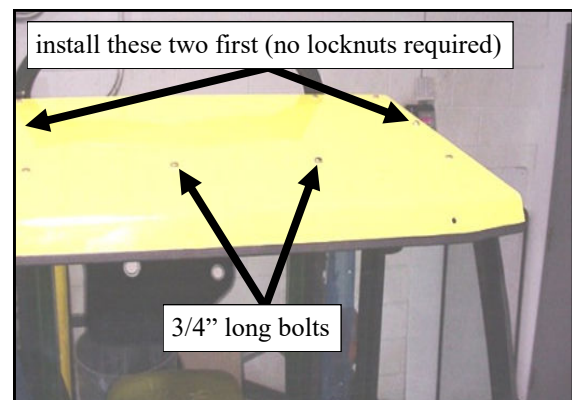

Fig. 11.1 Roof (viewed from the front)
11.1 With a Phillips head screwdriver, poke holes through the headliner from the inside surface to the outside surface. With assistance, install the roof as shown in figure 11.1. Use the following combinations of bolts: the two round holes in the top of the roof use two 5/16-18 x 3/4" long button head bolts, two steel washers, and two plastic washers on the outside surface. These two bolts thread into factory installed threaded inserts in the top of the side frames. The two front middle holes (square) use two 5/16-18 x 3/4" long button head bolts, two steel washers, and two plastic washers on the outside surface and two steel washers and two locknuts on the inside surface. The last two front square roof holes use two 5/16-18 x 1" long button head bolts, two steel washers, and two plastic washers on the outside surface and two steel washers and two locknuts on the inside surface.